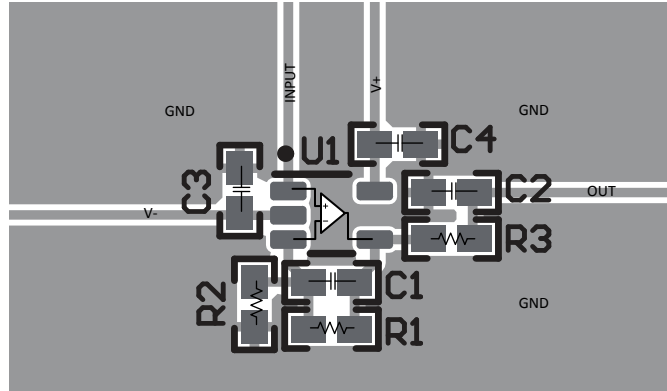

Figure 7-4. Example Layout for SC70 (DCK) Package
- Place the external components as close to the device as possible. As shown in Figure 7-4, keeping RF and RG close to the inverting input minimizes parasitic capacitance.